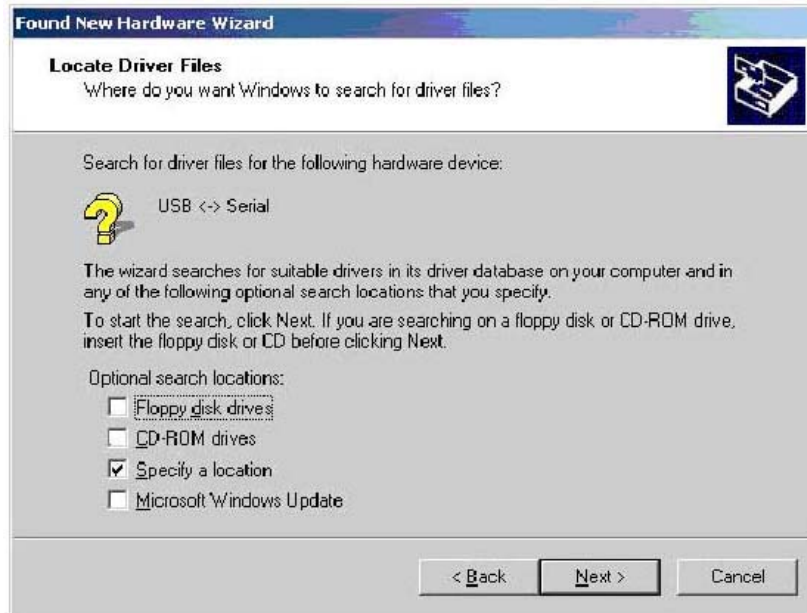

Figure 44
2. Check the **Specify a Location** box, uncheck all other boxes, and then click **Next** (Figure 44).